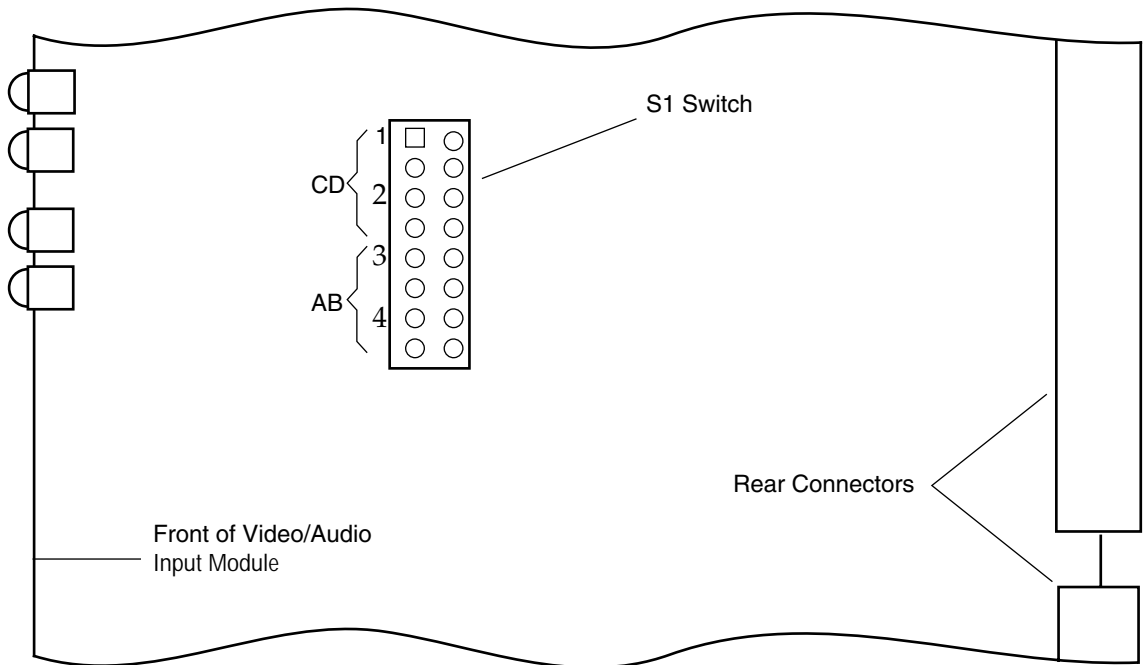

Figure 2-59. Combined Video/Audio Input Module Audio Attenuator Switch S1 Location
1. Remove the Combined Video/ Audio Input or Output module from the frame, and place on a flat, level, static-free surface. Refer to Figure 2-59 for the Input module S1 switch location. Or refer to Figure for the Output module S1 switch location.